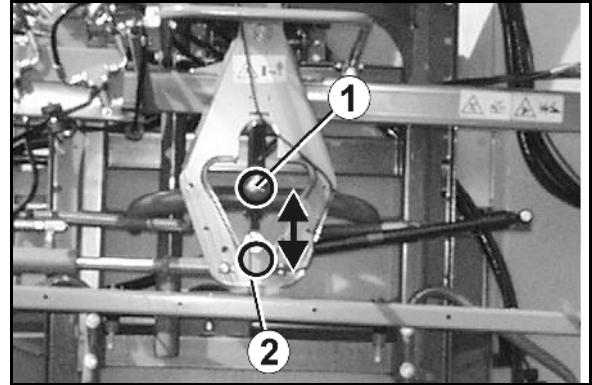

Fig. 84
### Unlocking the swing compensation (Fig. 84/1):
### Locking the swing compensation (Fig. 84/2):
- The swing compensation (Fig. 84/2) is locked when the closed lock symbol appears in the display.